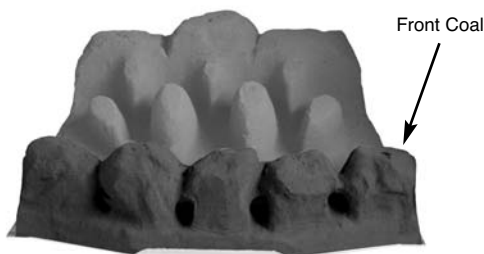

Fig. 22
2. Position the front coal on the front coal retainer, making sure that the back edge is pushed up against the front of the burner strip (Fig. 22).